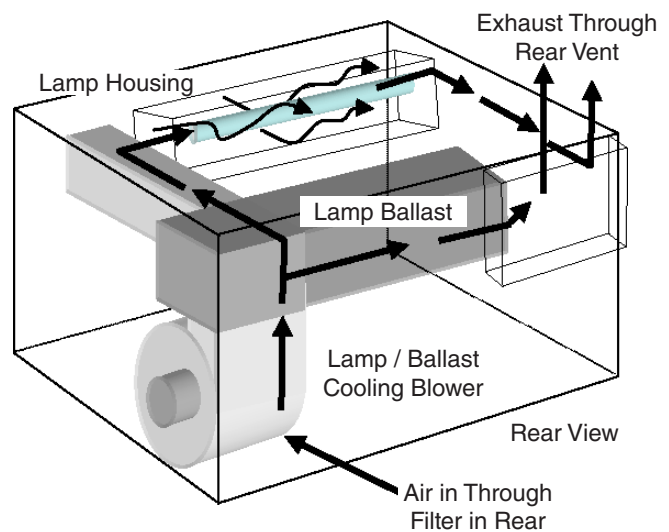

Figure 7.1c: Xe-1 Lamp cooling airflow.
- A schematic showing the lamp cooling system is shown in Figure 7.1c.